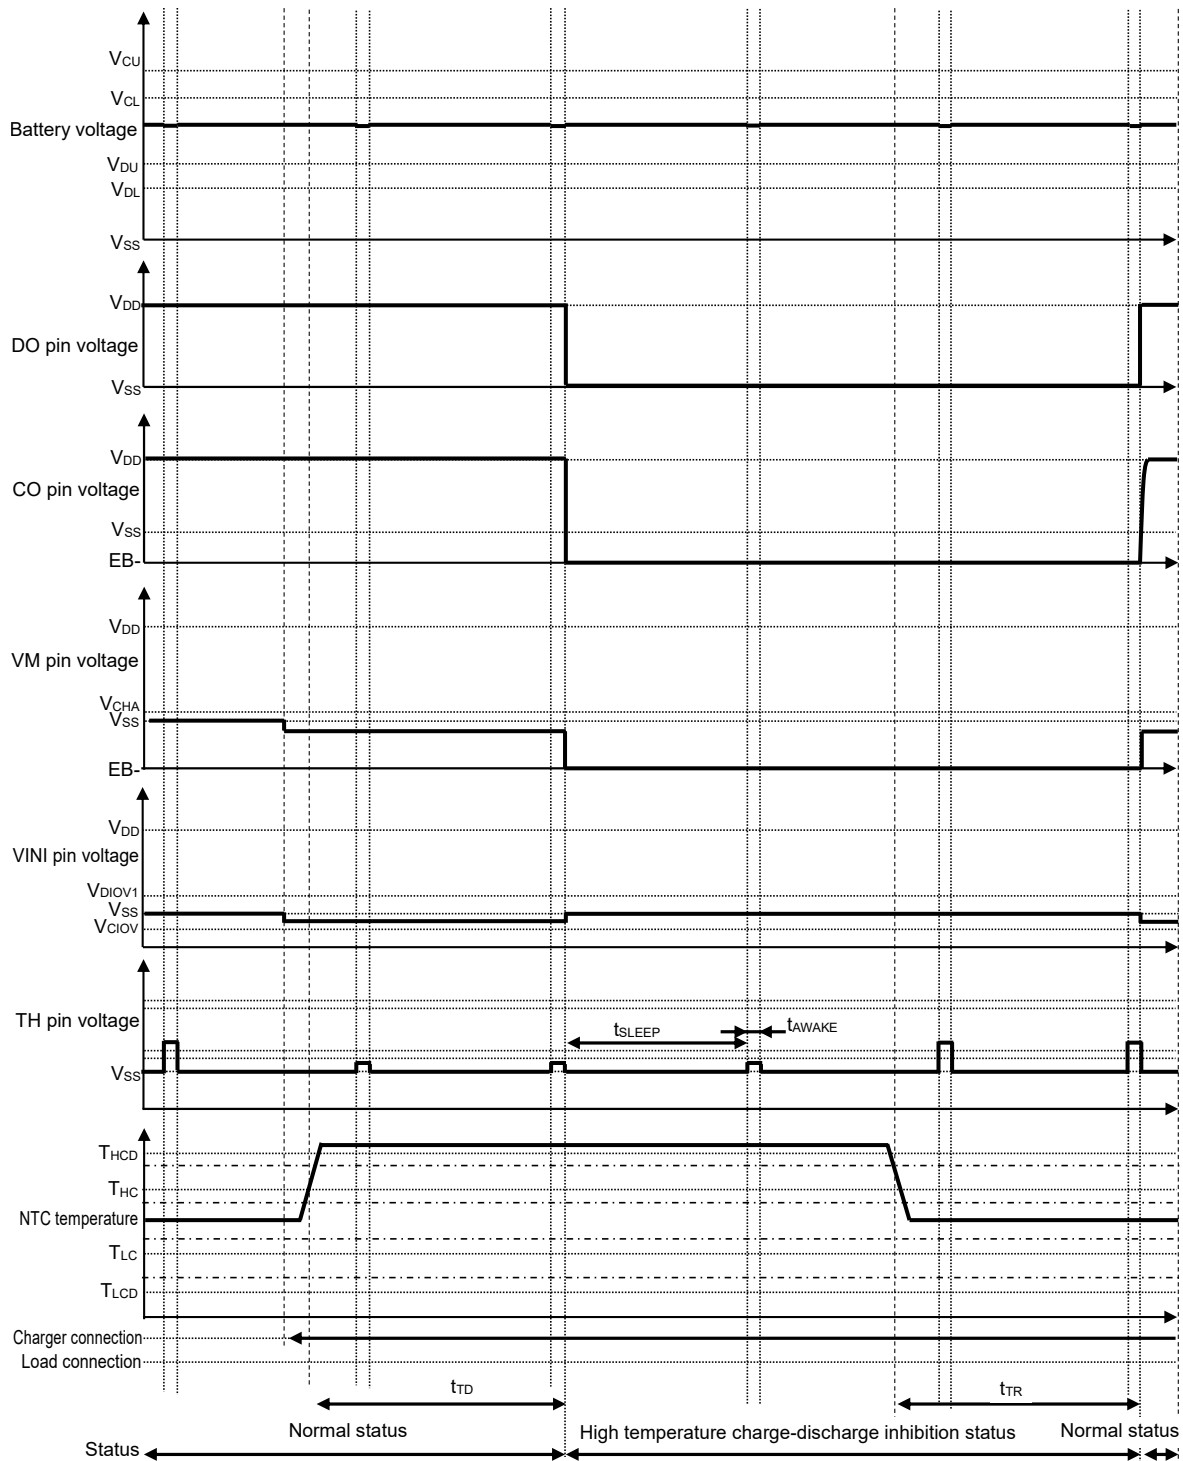

Figure 15
- Remark 1.** Figure 15 shows a time chart when $N = 2$ and the temperature of an NTC thermistor changes from below T_{HC} to above T_{HCD} .